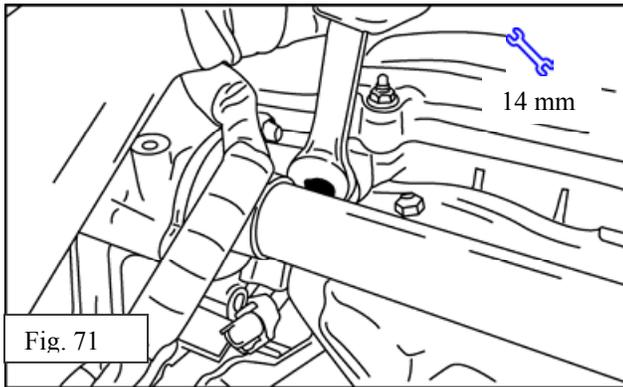

Fig. 71
- (t) Thread in captured TRD (10 x 1.25 x 25 flange head) bolt into engine at cylinder head hanger hole. 14 mm wrench. Leave loose for now. Fig. 71.